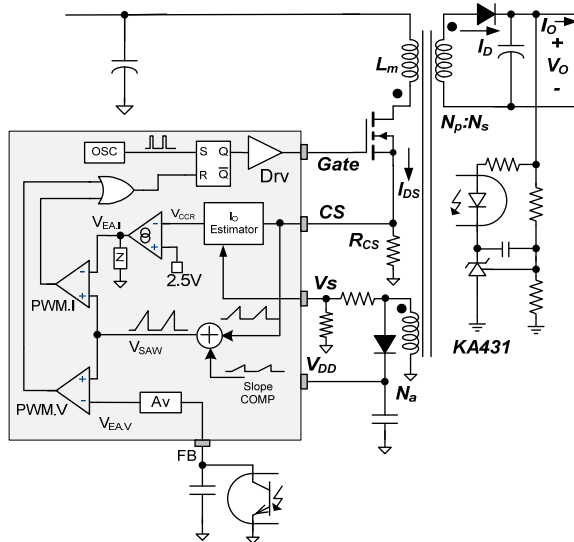
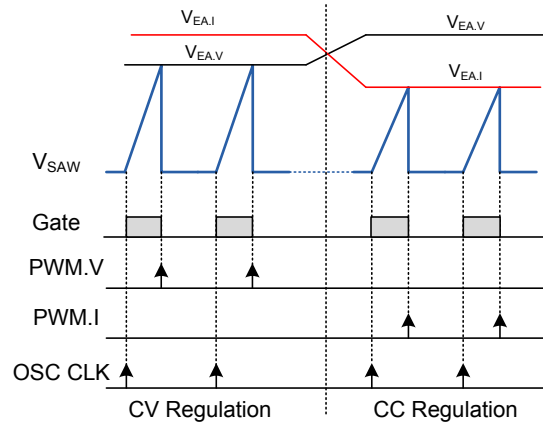

Figure 24. Internal PWM Control Circuit
Figure 25. PWM Operation for CC and CV
Figure 24 shows the internal PWM control circuit. The Constant Voltage (CV) regulation is implemented in the same way as in a conventional isolated power supply, where the output voltage is sensed using a voltage divider and compared with the internal 2.5 V reference of shut regulator (KA431) to generate a compensation signal. The compensation signal is transferred to the primary side using an opto-coupler and scaled down through an attenuator, A_v , generating $V_{EA,V}$ signal. Then, the error signal $V_{EA,V}$ is applied to the PWM comparator (PWM.V) to determine the duty cycle.
The two error signals, $V_{EA,I}$ and $V_{EA,V}$, are compared with an internal sawtooth waveform (V_{SAW}) by PWM comparators PWM.I and PWM.V, respectively, to determine the duty cycle. Figure 24 shows the outputs of two comparators (PWM.I and PWM.V) combined with OR gate and used as a reset signal of flip-flop to determine the MOSFET turn-off instant. Of $V_{EA,V}$ and $V_{EA,I}$, the lower signal determines the duty cycle, as shown in Figure 25. During CV regulation, $V_{EA,V}$ determines the duty cycle while $V_{EA,I}$ is saturated to HIGH. During CC regulation mode, $V_{EA,I}$ determines the duty cycle while $V_{EA,V}$ is saturated to HIGH.